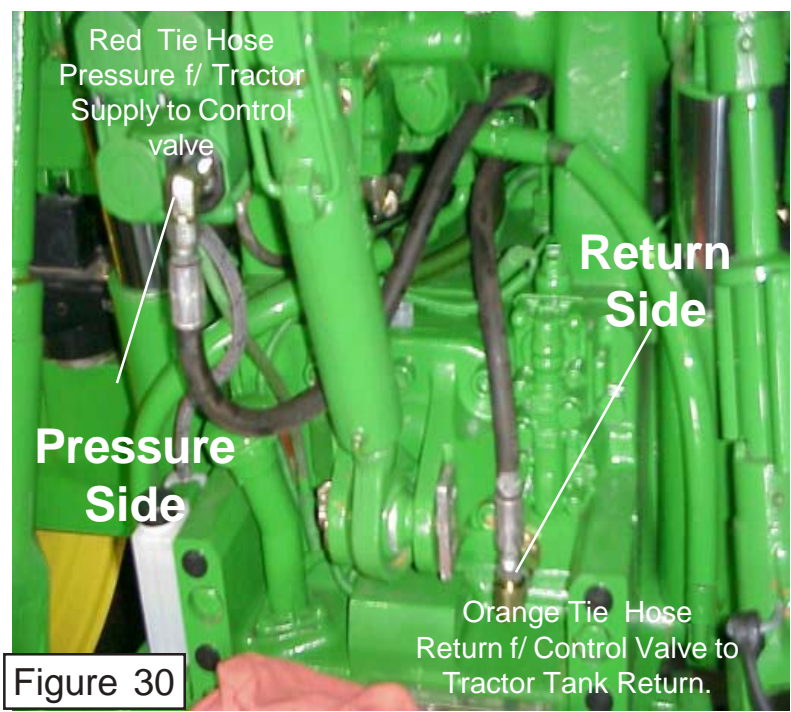

Figure 30
**15. Check all connections and fittings.** Check all hose connections and all mounting bolts to make certain they are tightens to specification. The Pressure Hose supply the Cylinder control valve connect to the quick Attach port of hydraulics. The Return side connects to a port just below and to the right of the three point top link connection on the tractor. NOTE: Shown (Figure 30) is a typical connection for a tractor hydraulic supply for cylinder control valve hydraulic pressure supply. This connection will vary with the tractor brand and type. See the assembly manual for the specific tractor for correct connection.